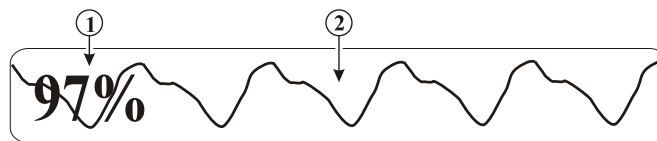

Figure 4-8. The SpO2 Display
4.4.3 Associated Displays. (See Figure 4-8) SpO2 is displayed in the Trace C location when Invasive Pressure 2 (P2) is turned Off; if P2 is On it is displayed in the Trace C location and the SpO2 numeric ONLY is displayed to the right of the NIBP numerics on the bottom of the Normal Screen. The following is a description of the SpO2 Display: